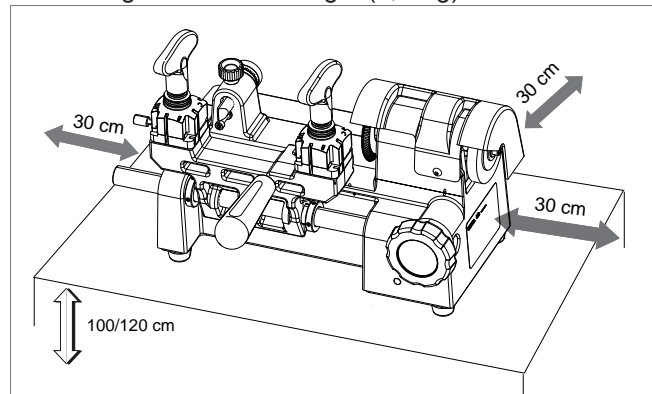

Fig. 10
- it is important to leave clearance of at least 30cm (12") behind the machine and on each side to ensure proper ventilation (Fig. 10).